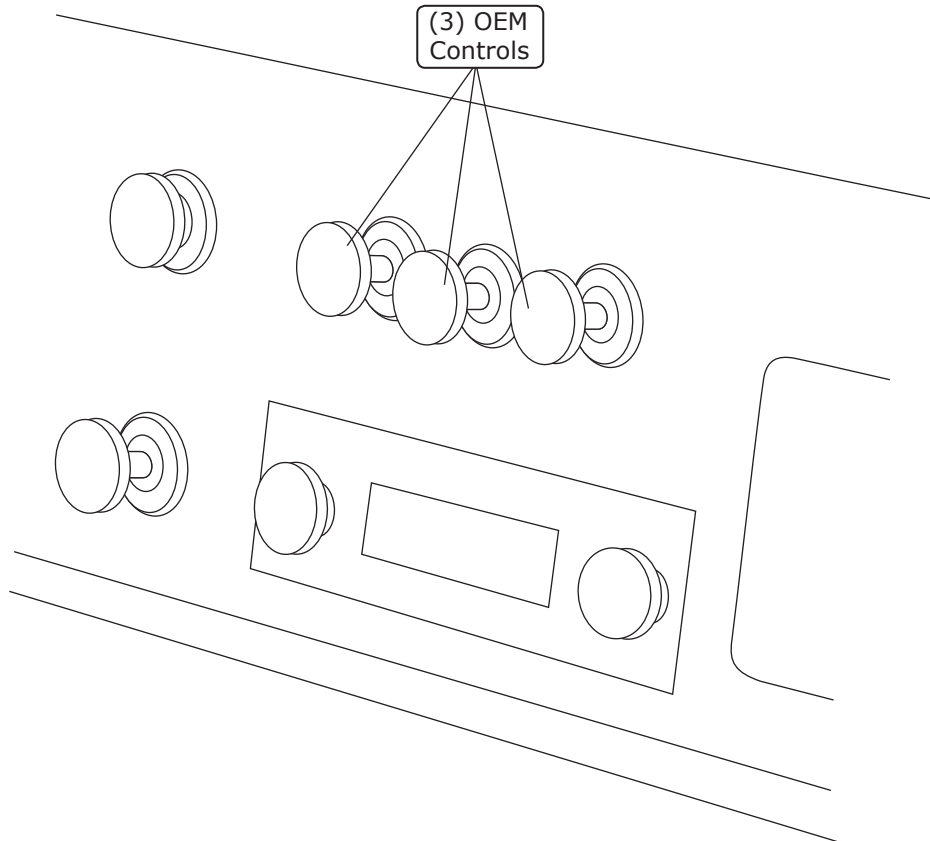

Figure 1
2. Remove the (3) OEM controls (See Figure 1, below) (discard).